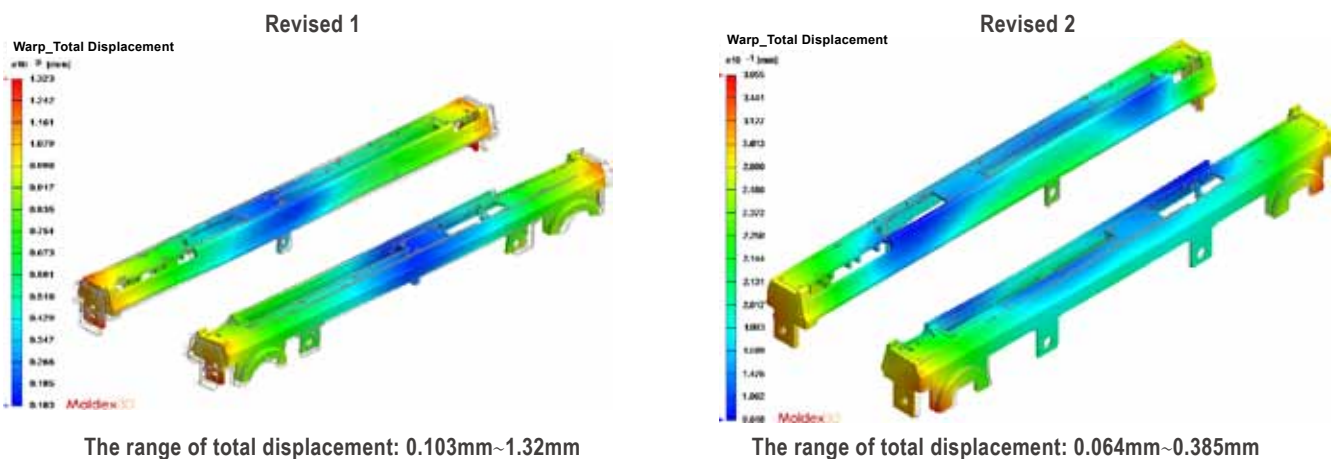

Fig. 10: Revised 2 shows the least warpage amount due to a significant improvement on product shrinkage.
- Part warpage could be drastically reduced (Fig. 10).